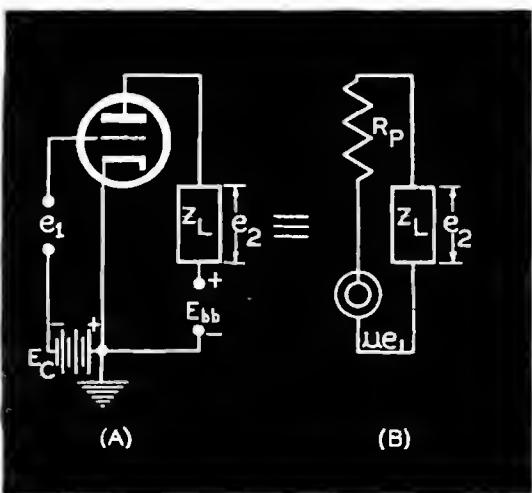

Figure 1
Figure 2 (left), a constant current circuit wherein the current  $G_m e_1$  generated, flows into the plate resistance  $R_p$  of the actual tube and the external load impedance  $Z_L$  in parallel. Figure 3 (right), a constant current circuit equivalent to the constant (generated) voltage circuit shown in Figure 1 (B).